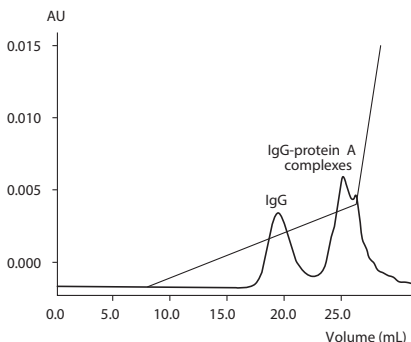

Fig 8. Removal of IgG-protein A complex from mouse IgG_{2a} by anion exchange chromatography on HiTrap Q HP. Recombinant protein A was spiked into IgG_{2a}.
- Anion exchange chromatography can also be used to reduce leached protein A contamination. It is best suited to antibodies that are weakly retained on anion exchangers. Because of the strong anion exchange binding characteristics of protein A, protein A-IgG complexes tend to be more strongly retained than noncomplex antibodies (Figure 8, on page 27). These complexes do not generally form separate peaks, but often exhibit a trailing shoulder. To determine the ability of